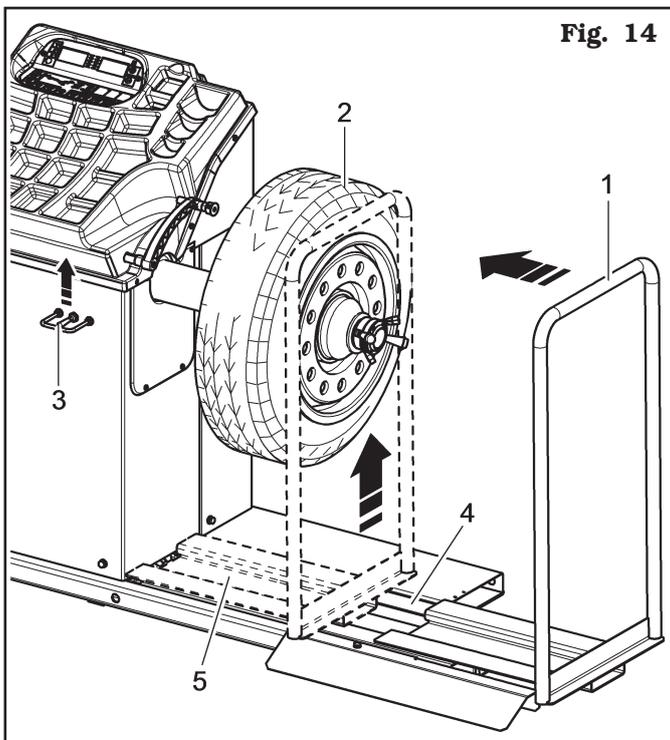

Fig. 14
1. Move leftwards the wheel support (**Fig. 14 ref. 1**) and bring the wheel support plane (**Fig. 14 ref. 5**) under the tyre (**Fig. 14 ref. 2**).
2. Lift the lifting device control (**Fig. 14 ref. 3**) and lift the footboard (**Fig. 14 ref. 4**) until the wheel bearing (**Fig. 14 ref. 5**) comes in contact with the tyre (**Fig. 14 ref. 2**).